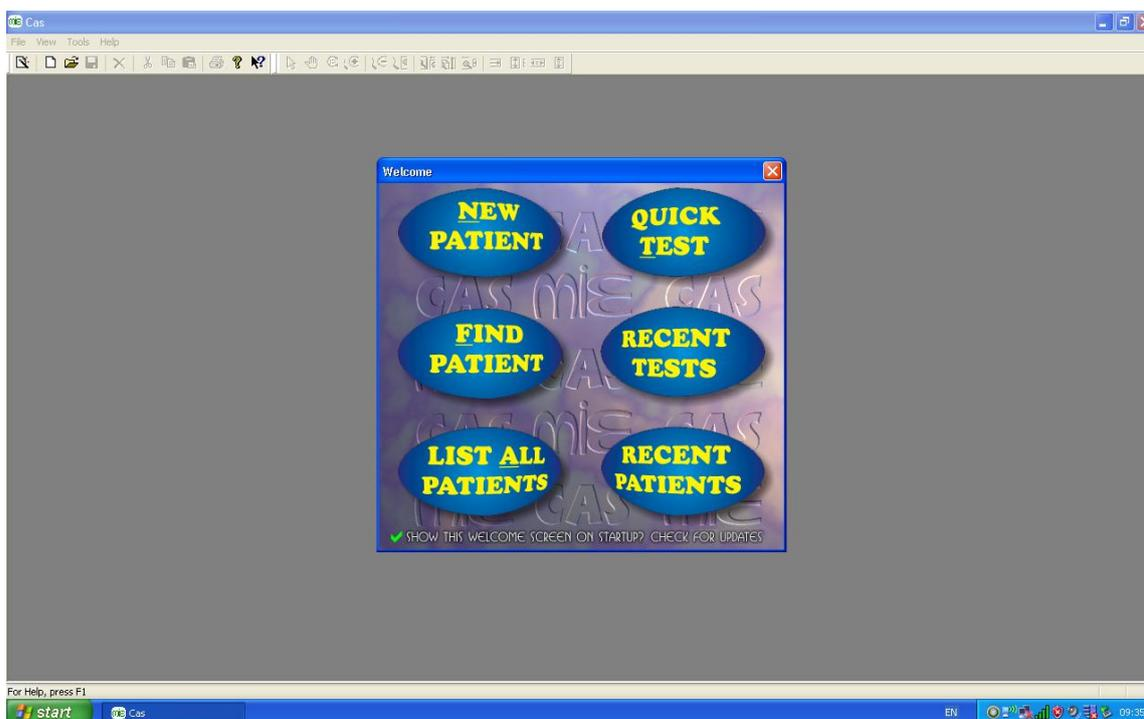

Figure 2.
10. Select "New Patient" from the start-up screen or alternatively click "File" on the drop-down toolbar menu and then select "New" (figure 2).